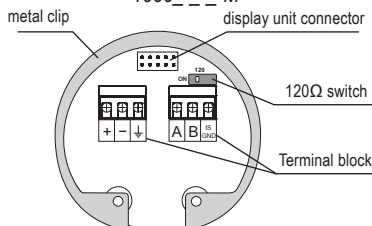

Fig. 19: Inside view of screw terminals of the level meter with Modbus UPS 1000_--_-M
2. Now it is shown the item "TEACHING". By pressing **OK** set the value "LEVEL DISTANCE" (distance to the level) – supposed distance from the face of the sensor to the medium level. If the distance to the level is not precisely known, enter a value lower (in the tolerance field as shown in Fig. 19).